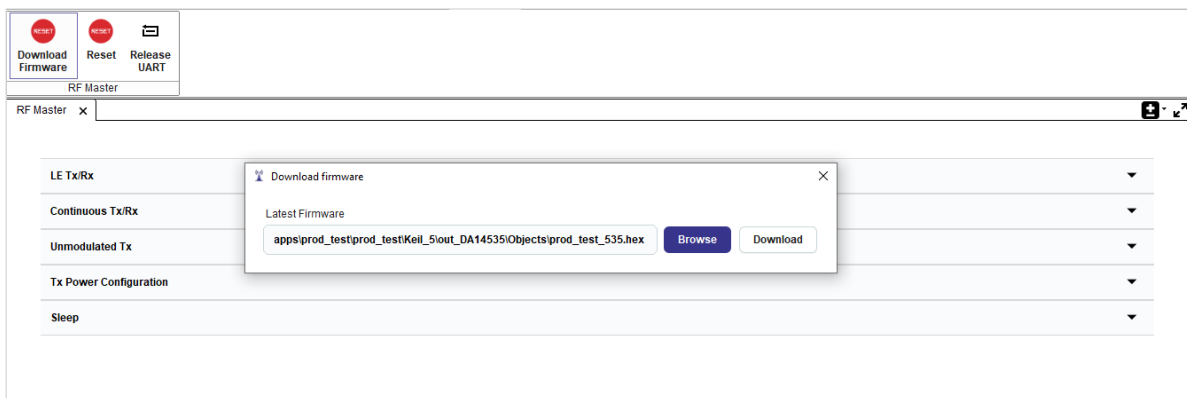

Figure 1. Firmware download in RF Master
3. Connect the SmartSnippets™Toolbox through JTAG or COM port, choose RF Master, in the built binary, and click the **Download** button as in Figure 1.